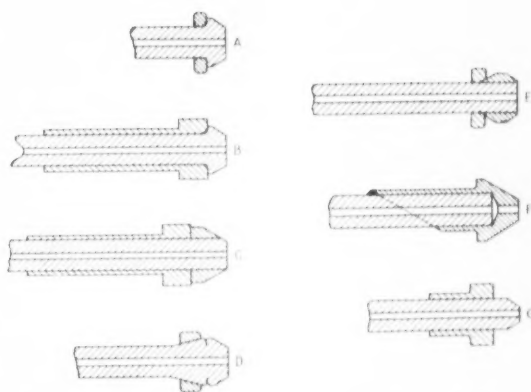

Fig. 1. Terminations for C.I. engine high pressure fuel pipes
minations, however, some of which are shown in Fig. 1. Of these (A) to (E) have been widely used, and there are a few others not in common use and not illustrated. The commonest termination (Fig. 1(A)) is the single taper made by upsetting or swaging with a hand tool, with a steel backing washer.